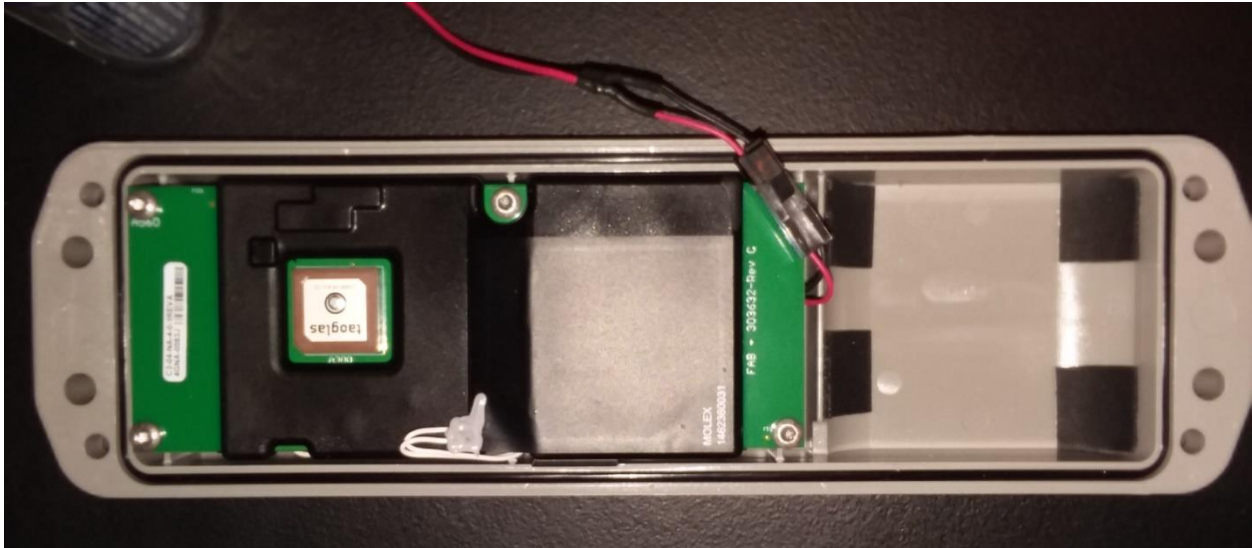

Figure E5
6. Connect a 7.2V power supply or wall wart to the power cable of the main board for a **minimum of 5 minutes** (preferably more) to pre-charge the main board and prevent errors once the new battery is connected(see Figure E5, below).